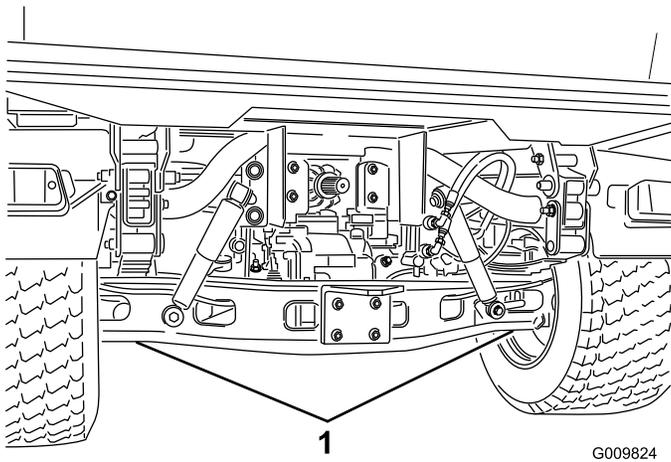

Figure 29
- The jacking point at the front of the vehicle is under the front center frame support (Figure 28) and at the rear it is under the axle (Figure 29).